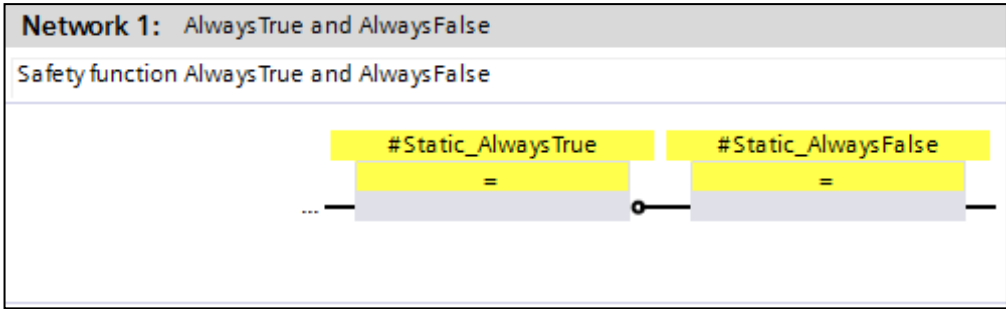
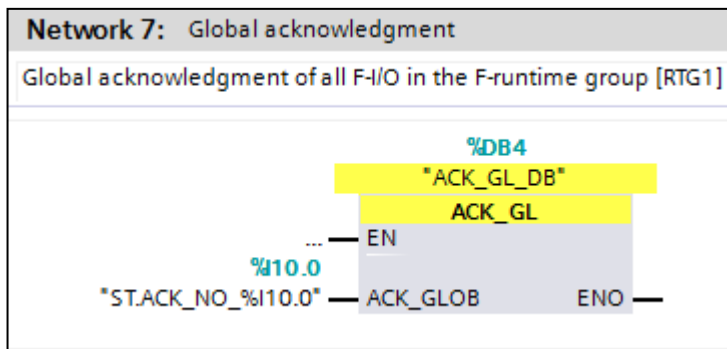

Figure 89: TIA – F-program » Signals 'AlwaysTrue' and 'AlwaysFalse' (Network 1)
Figure 95: TIA – F-program » Global acknowledgment 'ACK_GL' (Network 7)
- in the diagrams of the networks 1-7 from Figure 89 to Figure 95 [book 57-60].